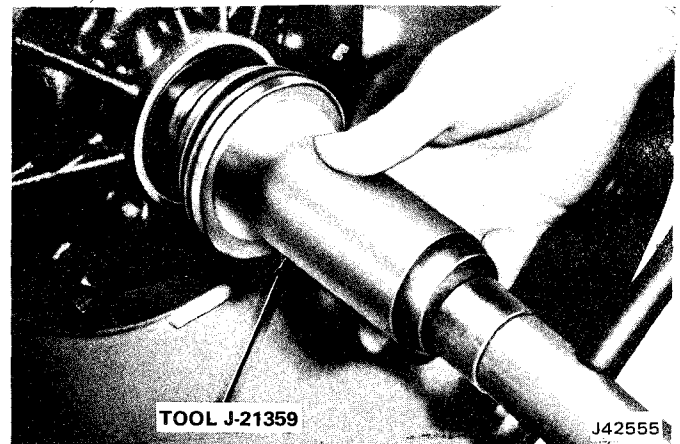

Fig. 2C-155 Oil Pump Seal Installation
(6) Install oil pump seal. Use nonhardening sealer on outside of seal and install seal using Tool J-21359 (fig. 2C-155).